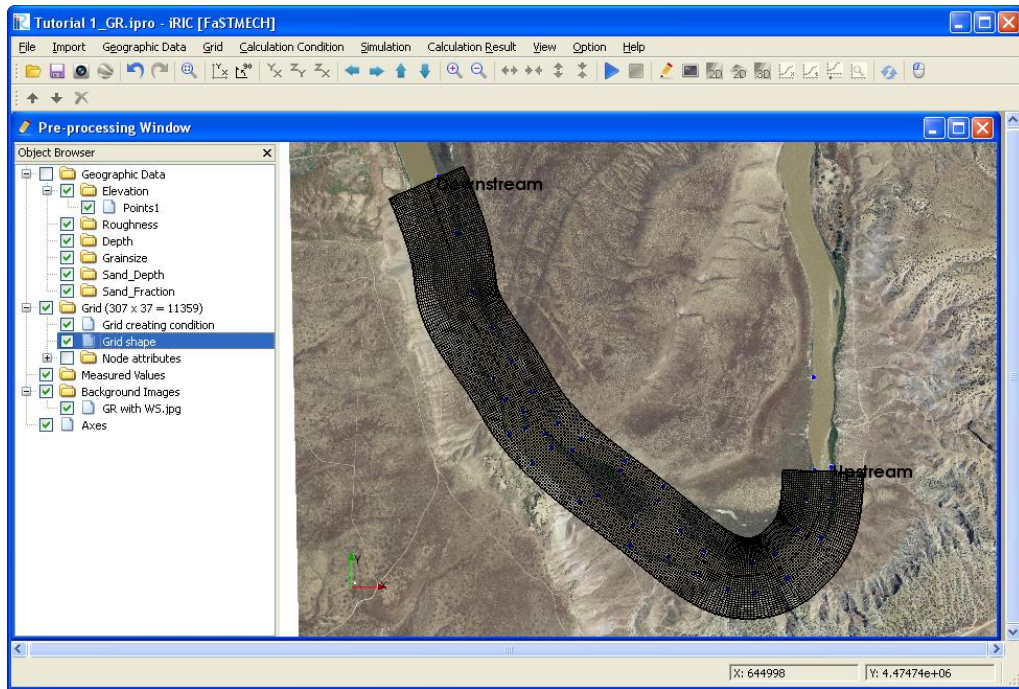

Figure 8. Example grid for the Green River.
- A Confirmation message “Do you want to map geographic data to grid attributes now?” follows. In this case we will decline by selecting No. We want to modify the location and curvature of the grid which is likely in this case to take many iterations. To disable the automatic mapping of geographic information from the **Menu Bar** select **Grid ► Attributes Mapping ► Setting** and in the resulting Grid Attribute Mapping Setting dialog, select Manual for the Execute mapping property. Your grid should look similar to Figure 8